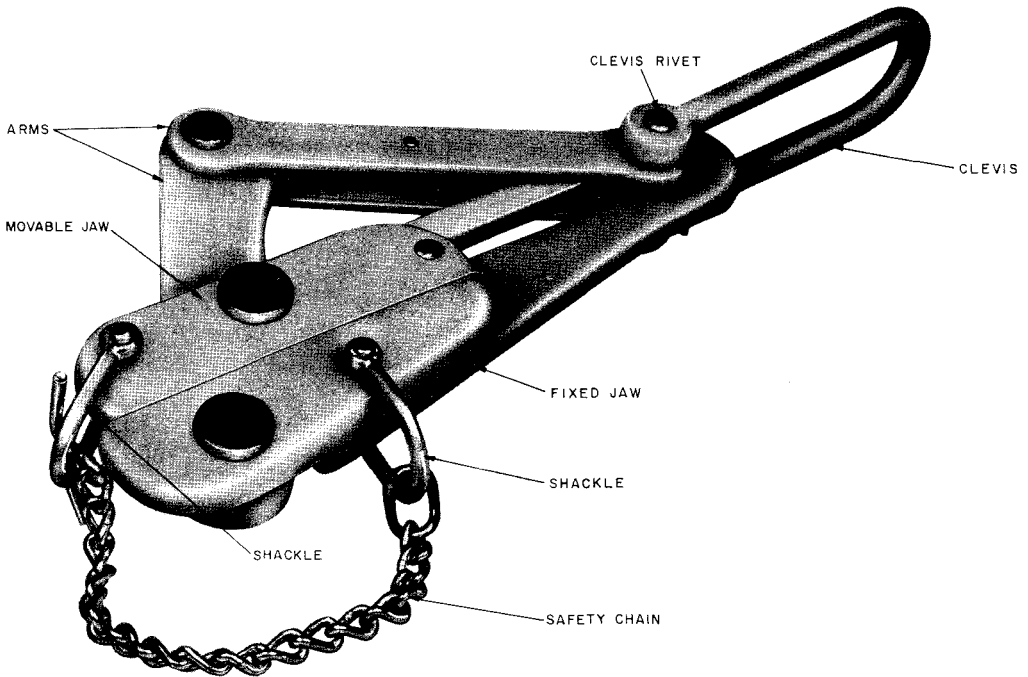

Fig. 2—H Strand Puller
2.04 The H strand puller (Fig. 2) weighs approximately 16-1/2 pounds and is equipped with a